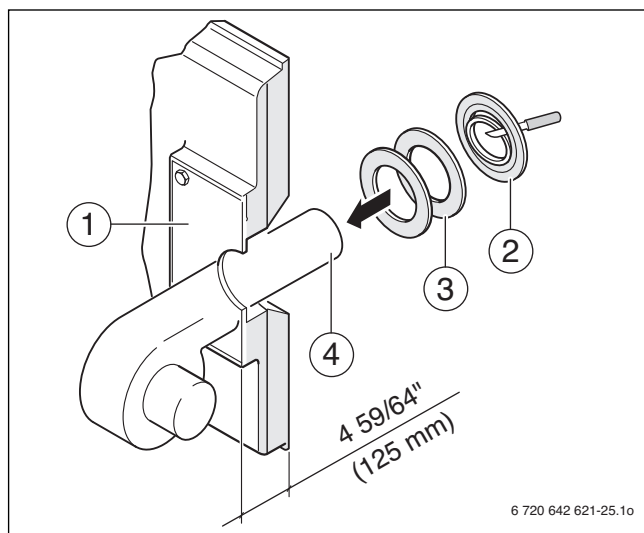

Fig. 57 Mounting the burner
- ▶ Drill or cut the burner plate (→ Fig. 57, [1]) to match the required burner tube diameter  $\varnothing 10\ 5/8$  inches (270 mm).
- ▶ Cut out insulating rings to match the burner tube diameter (→ Fig. 57, [2]).
- ▶ Fill the remaining gap between the burner door thermal insulation and the burner tube (→ Fig. 57, [4]) using the appropriate insulating rings (→ Fig. 57, [3]).